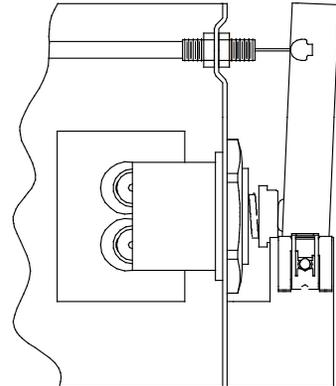

FIG. 6
3. Remove cable free play by adjusting the jam nuts on the ends of the operating cable in the freeze resistant box. See Figure 6.